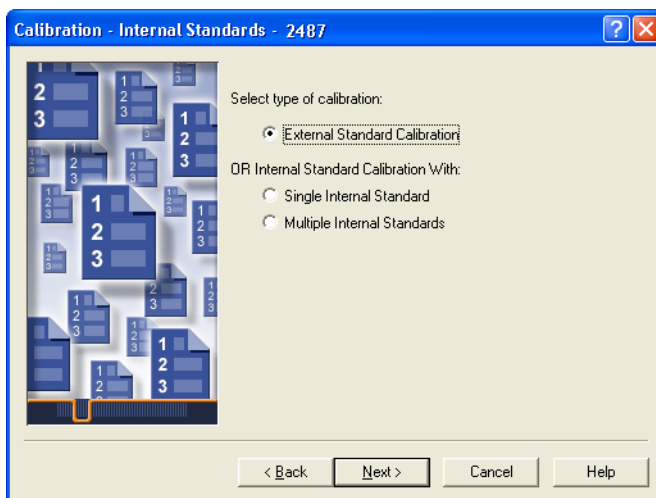

Figure 4-29 Processing Method Wizard, Calibration–Internal Standards Page
17. In the Units column, enter **g/L** in the first row (Acetone). Enter **mg/L** in the second row (Acetophenone), select **mg/L**, then press **Ctrl+D** to fill the information down into the other rows. Click **Next**. The Calibration–Internal Standards page appears (Figure 4-29).